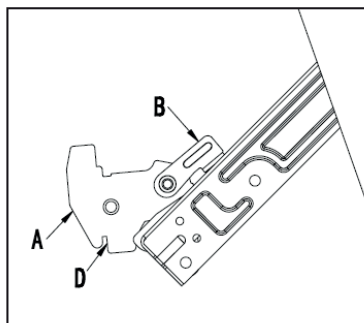

Fig 1
- › Open the door completely and lift the 2 levers “B” (Fig.1);
- › Choose which shelf to use with the telescopic runner. Paying attention to the direction in which the runner is to be extracted, position joint 'B' and joint 'C' on the frame (see Fig.1).